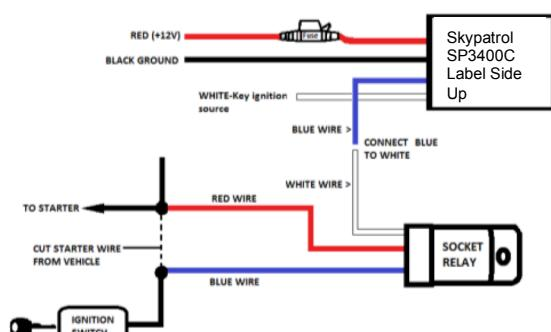

Figure 3
2. For the starter interrupt installation follow the steps shown in figure 3.